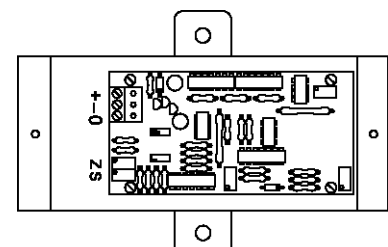

Figure 4. Duct Pressure Transducer With VDC Output
- Remove the blue terminal block by carefully pulling it off the circuit board. See Figure 4.